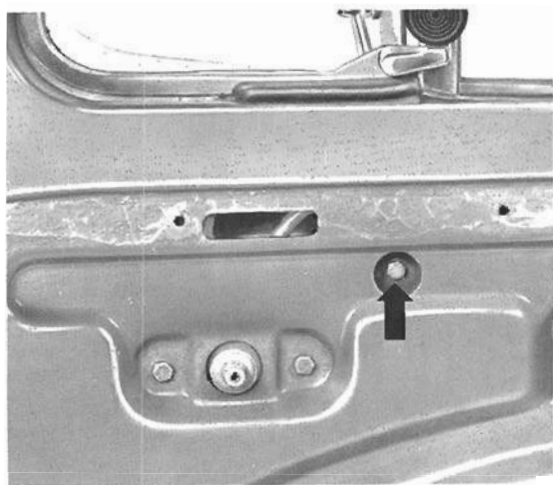

Fig. 5-19 Bolt for the window from guide channel
3. Remove the bolt indicated in Fig 5-19.